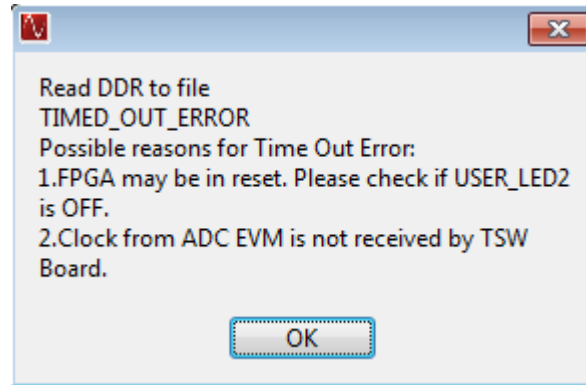

Figure 69. Read DDR Error for No Capture
- **No Capture in HSDCPro:** It is possible that once the GUIs and EVMs are configured for capture, and the capture button in HSDCPro is pressed, that nothing seems to happen and eventually the GUI will timeout and a pop-up an error appears as seen in Figure 69. Reasons for this can include the following: